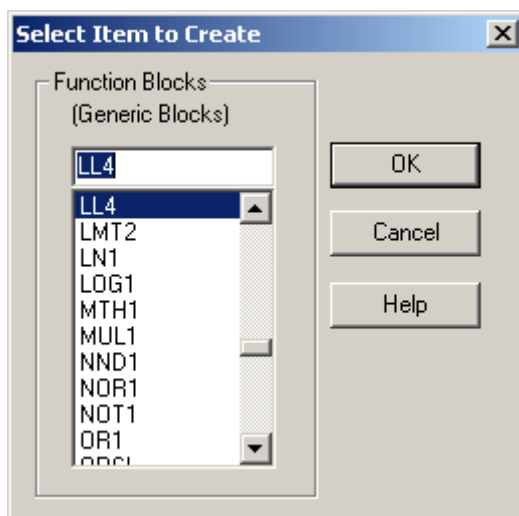

Figure 6-13 Select Item to Create
2. Click the **New Function Block** button on the **Line Connection** toolbar.  The Select Item to Create dialog opens. See Figure 6-13.